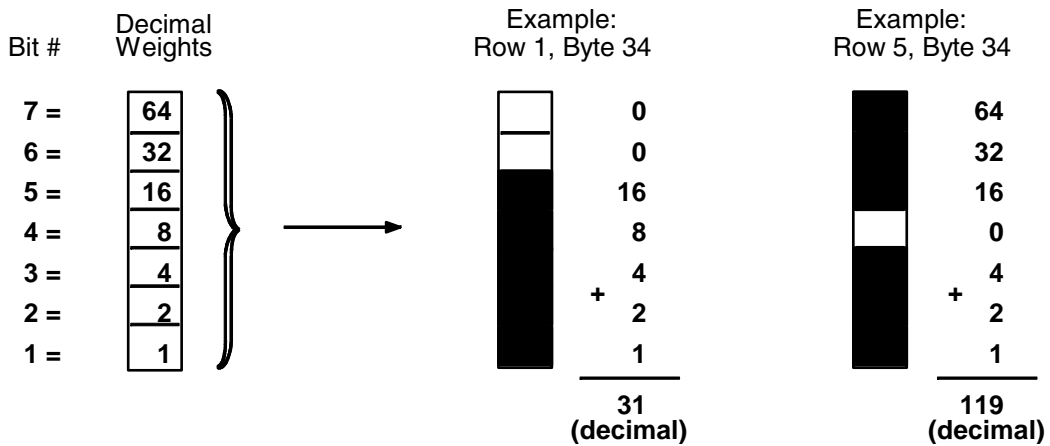

Figure 38. Logo Design
- Define the logo, and return to the form to add the logo data. The HandCraft logo is a hand with a sailboat as plotted in Figure 38. (Use the Logo Grid in Appendix C to plot the dot positions for your logo the same way.) Drawing the logo out on a grid permits the dot positions for each vertical data byte in the logo to be computed and input as data in the Plotting Graphics (Q) command. Notice that where dot positions are *not* computed, the boat image in the hand emerges. The complete program for the HandCraft logo starts on page 317.
For example, the values in Table 69 have been assigned to bits 1 through 7 for the first 0.1-inch row of data bytes (1 through 42) shown in Figure 38. Each byte was first calculated in decimal and then converted to the equivalent hexadecimal value (using the ASCII chart in Appendix A). The hexadecimal values are the data for the program shown on page 317.
Following this scheme, all hex data bytes for an entire 0.1 inch row (seven vertical dot rows) of the logo can be calculated. Subsequent rows are calculated similarly. To print each 0.1-inch row of the logo, the print position is shifted down 0.1 inch using the Justification command, and then the same vertical data byte columns are used. (See the second example in Figure 38.)
Following this scheme, all hex data bytes for an entire 0.1 inch row (seven vertical dot rows) of the logo can be calculated. Subsequent rows are calculated similarly. To print each 0.1-inch row of the logo, the print position is shifted down 0.1 inch using the Justification command, and then same vertical data byte columns are used. (See the second example in Figure 38 on page 316.)